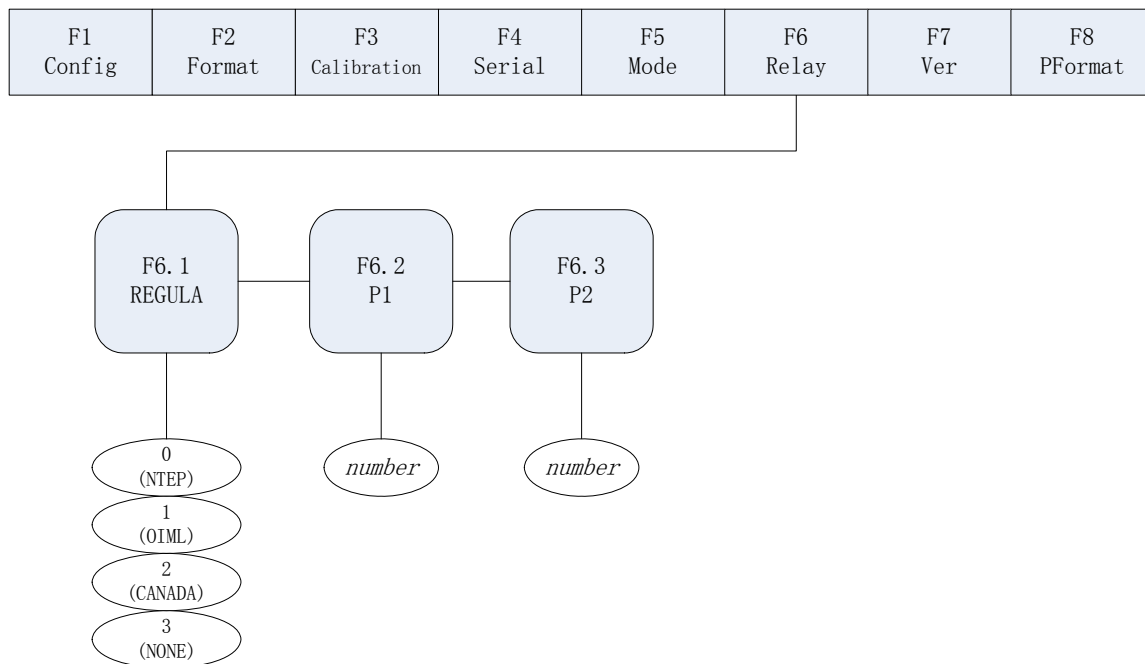

Fig. 6-1 Relay Output Menu
- (1) Set indicator to Configuration mode (display shows “F1”).
- (2) Press  until display shows “F6” (see Fig. 6-1). Press  to go to the Relay Output Menu. Display shows “F6.1”
- (3) When displays shows “F6.1”, press  to go to the F6.2 Menu and display shows “F6.2”.